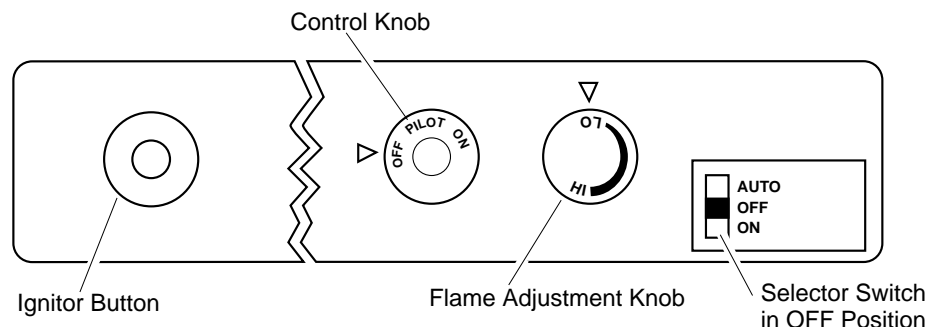

Figure 22 - Control Knob and Ignitor Button Location
- Press in and turn control knob clockwise to the OFF position (see Figure 22).
- Wait five (5) minutes to clear out any gas. Then smell for gas, including near the floor. If you smell gas, **STOP!** Follow "B" in the safety information above. If you don't smell gas, go to the next step.
- Press in and turn control knob counterclockwise to the PILOT position. Press in control knob for five (5) seconds (see Figure 22).